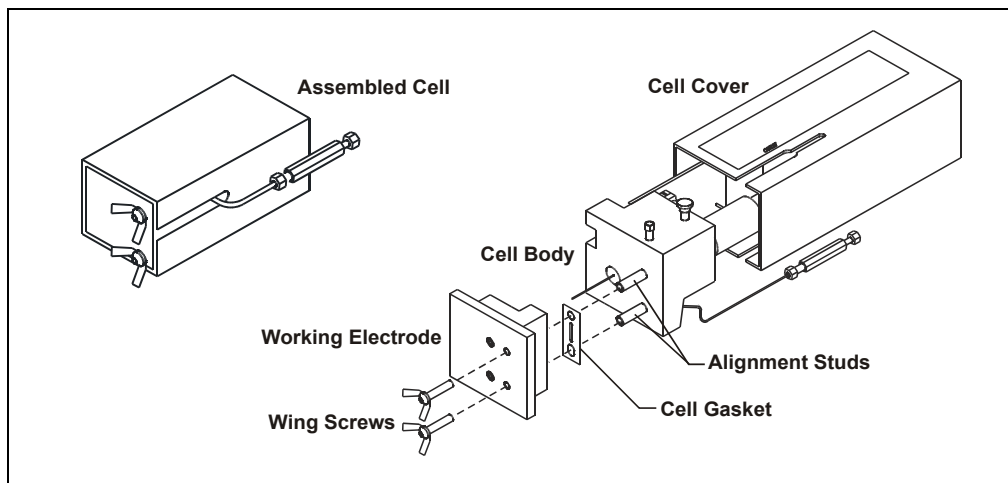

Figure 5-1. Amperometry Cell Components
2. Unscrew the wing nuts holding the working electrode to the cell body, and carefully separate the parts (see Figure 5-1). Handle the cell gasket and the inside surfaces of the cell carefully, to prevent scratches which may subsequently cause leaks.